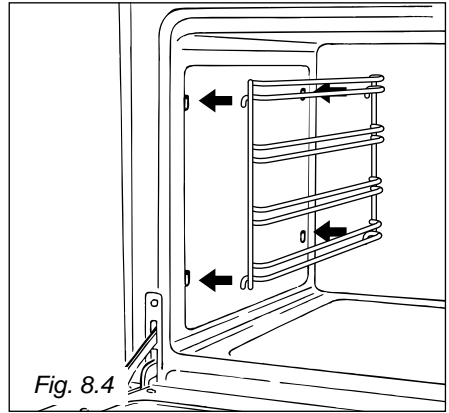

Fig. 8.4
- Slide in the wire racks on the oven wall as in Fig. 8.4.